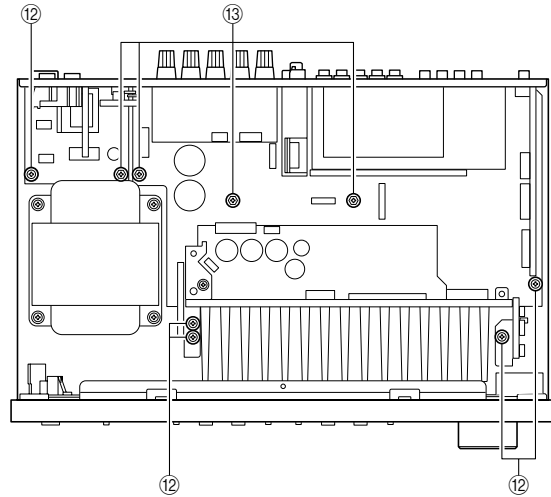

Fig. 4
- c. Remove 5 screws (12) and 4 screws (13). (Fig. 4)